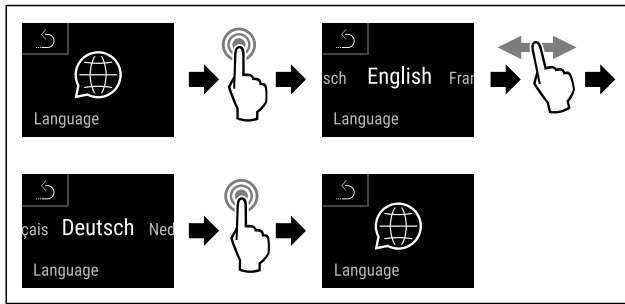

Fig. 104
- ▶ Complete steps (see Fig. 104) .